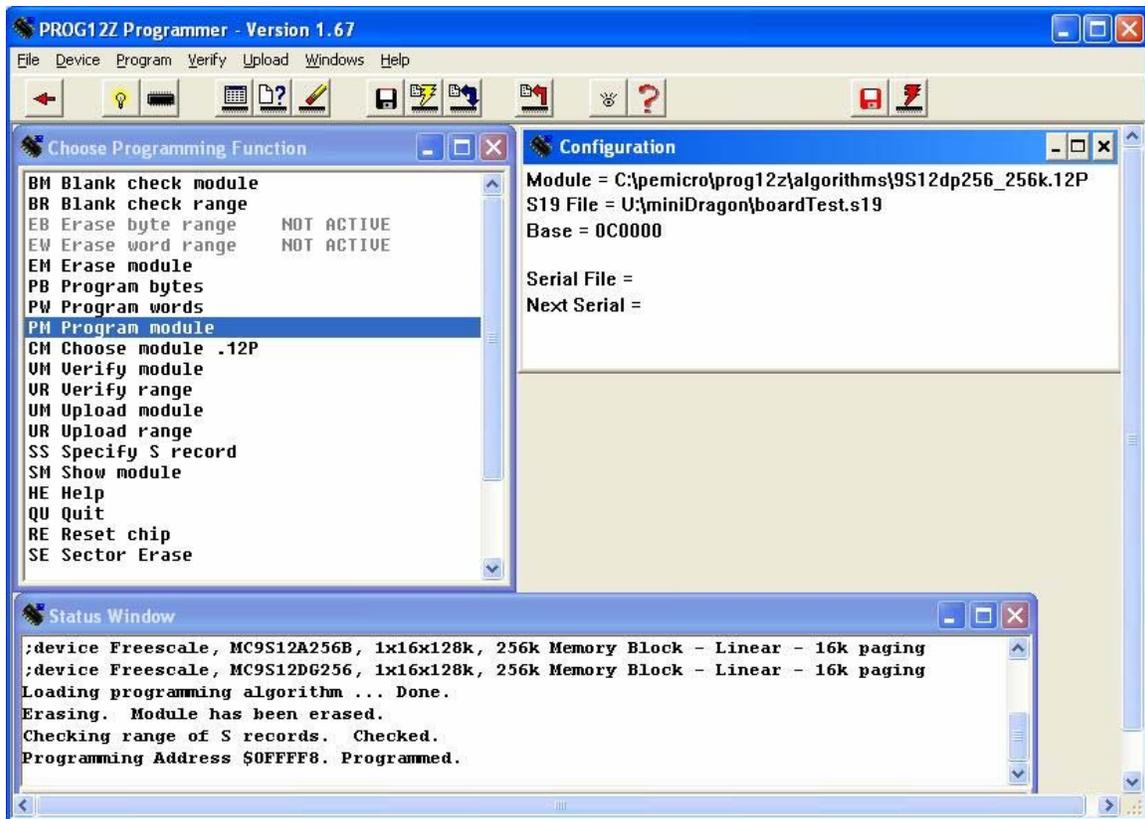

Figure 5. Flash Programmer Interface
7) The base address should automatically be entered for these settings. If it is not already set, enter "0C0000". When complete, the interface should look exactly as shown in figure 5.